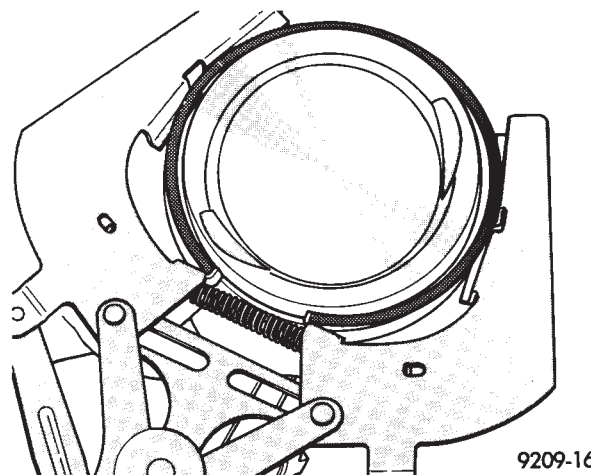
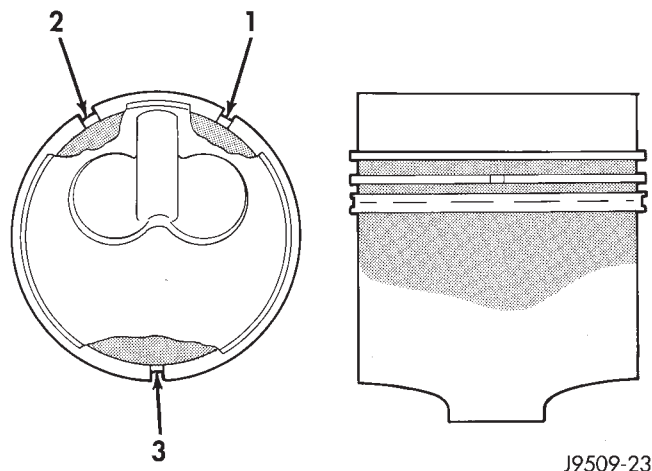

Fig. 46 Piston Rings—Removing and Installing
Fig. 48 Piston Ring Gap Location
(1) Install rings on the pistons using a suitable ring expander (Fig. 46).
(2) Top compression ring is tapered and chromium plated. The second ring is of the scraper type and must be installed with scraping edge facing bottom of the piston. The third is an oil control ring. Ring gaps must be positioned, before inserting piston into the liners, as follows (Fig. 48).
(3) Top ring gap must be positioned at 30 degrees to the right of the combustion chamber recess (looking at the piston crown from above).
(4) Second piston ring gap should be positioned on the opposite side of the combustion chamber recess.
(5) Oil control ring gap to be located 30 degrees to the left of combustion chamber recess.
(6) When assembling pistons check that components are installed in the same position as before disassembly, determined by the numbers stamped on the crown of individual pistons. Engine cylinders are numbered starting from gear train end of the engine. **Face chamber recess side of piston towards camshaft**. Therefore, the numbers stamped on con rod big end should also face in the same direction. To insert piston into cylinder use a ring compressor as shown in (Fig. 46).
(2) Before installing the ring compressor, make sure the oil ring expander ends are butted and the rail gaps located as shown in (Fig. 48).
(1) Before installing pistons, and connecting rod assemblies into the bore, be sure that compression ring gaps are staggered so that neither is in line with oil ring rail gap (Fig. 48).